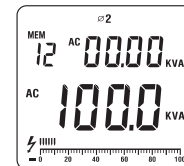

Figure 18
- Then press **SELECT** again to choose the second phase Ø2, see figure 18.